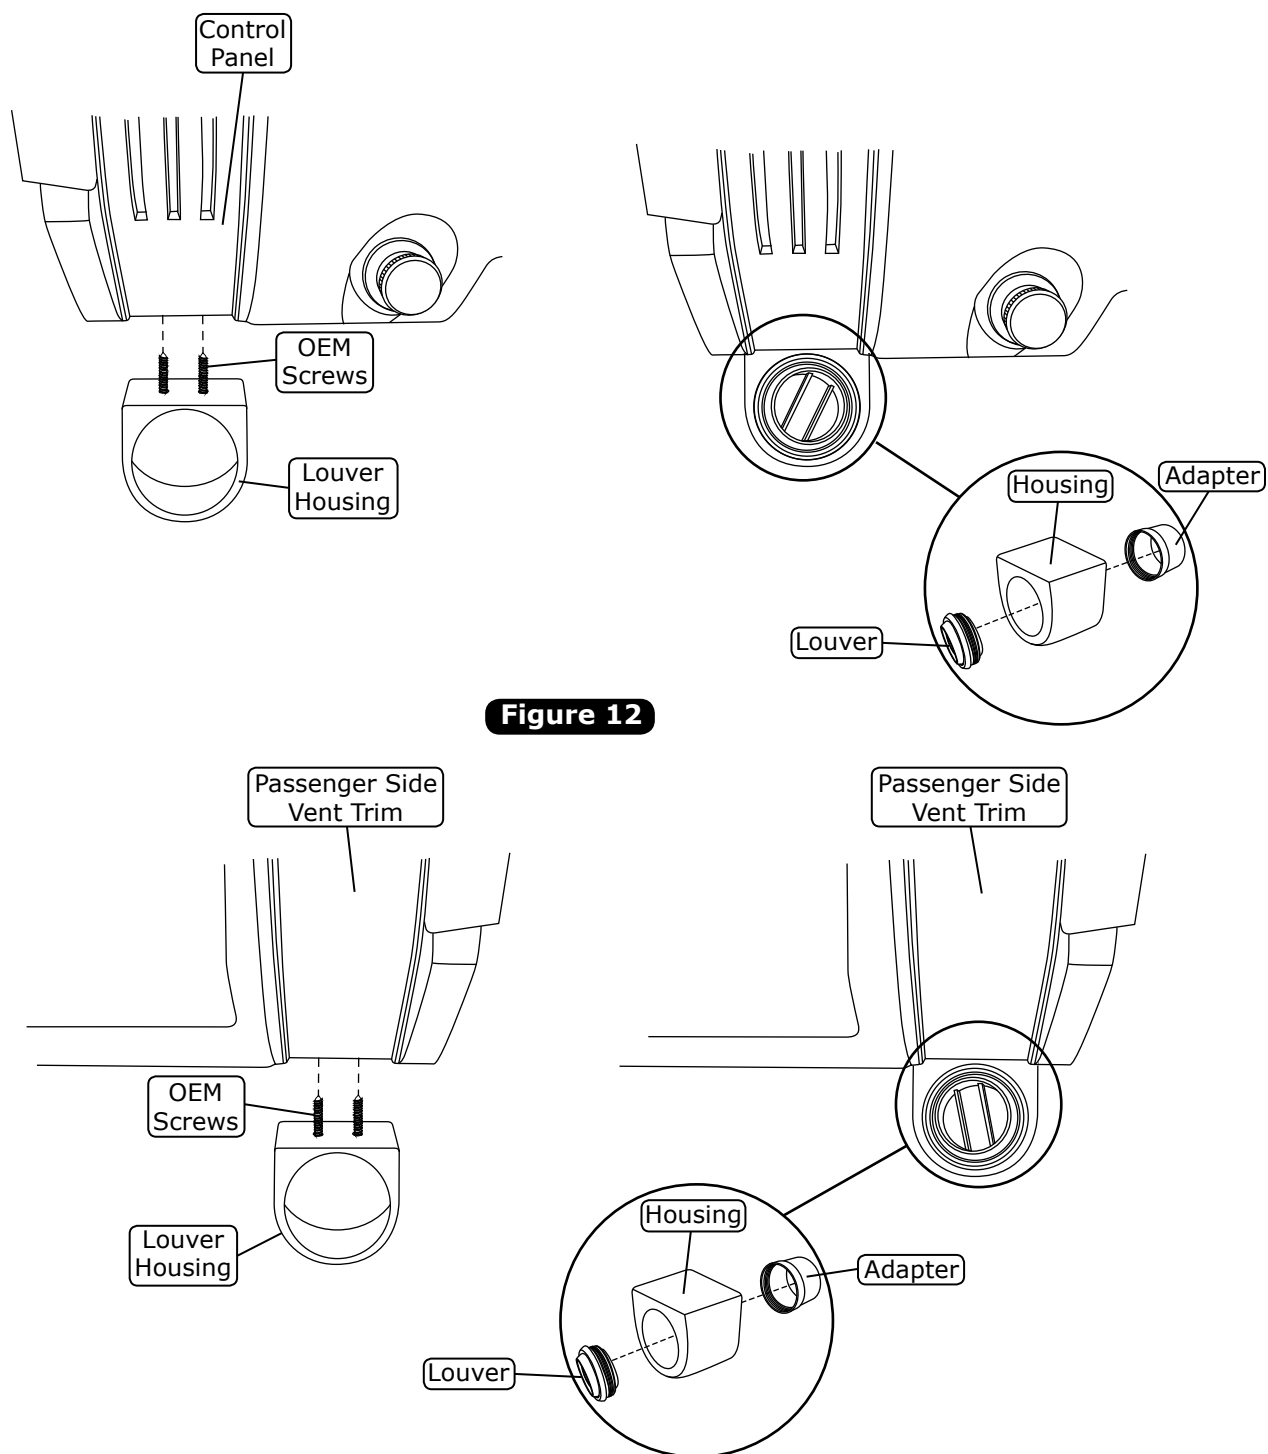

Figure 12
1. Install the driver and passenger side louver housings under the dash using OEM screws as shown in Figure 12, below.
2. Install the louvers into the driver and passenger side louver housings as shown in Figure 12, below.